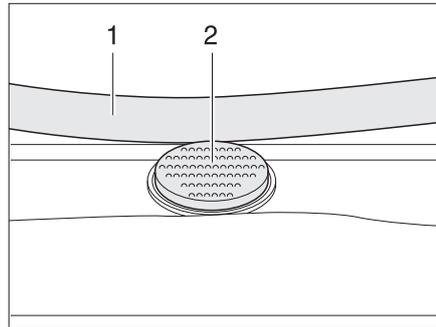

Fig. 44 Safety knob on the Heki skylight
- Press the safety knob (Fig. 44,2) and pull the bar (Fig. 44,1) down with both hands.
- Push the bar upwards with both hands until it is above the safety knob (Fig. 44,2).